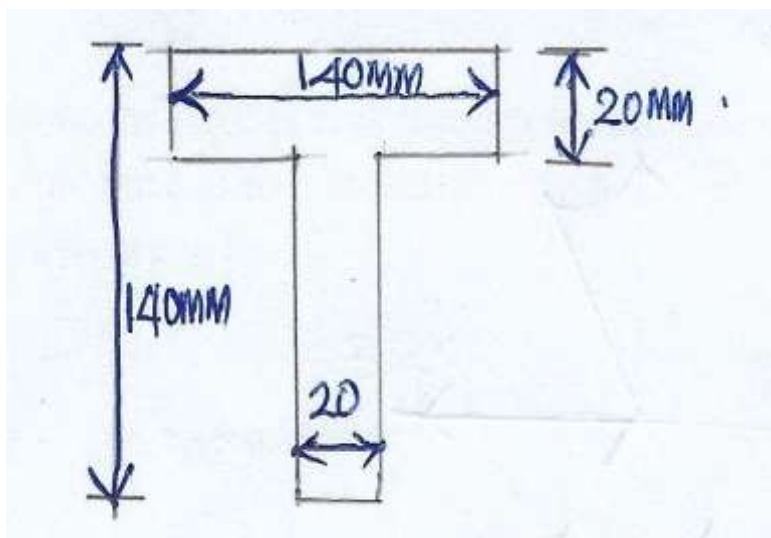

Fig. 7a
7. (a) Locate the centroid of the Tee section shown in Fig. 7a 08